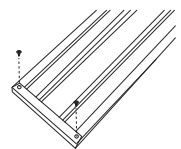

Figure 2
2. For the seats, lay two aluminum planks upside down on a flat surface. Slide the poly end caps onto each end of the planks. The pre-drilled holes of the end cap should be facing up. Use power drill and two self-tapping screws to secure each end cap onto each end of the plank. (See Figure 2)